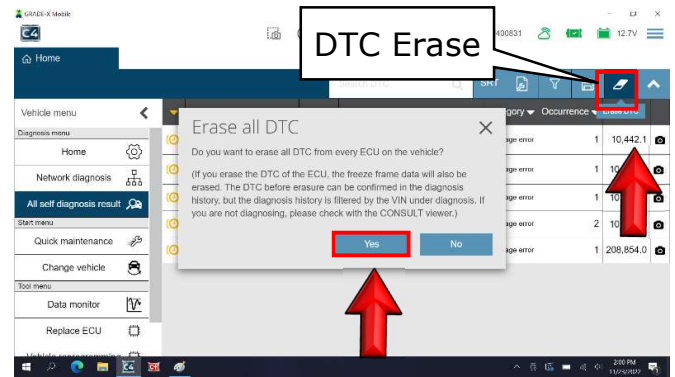

Figure 39
- Select the erase DTC icon, and select **Yes** to erase (Figure 39)